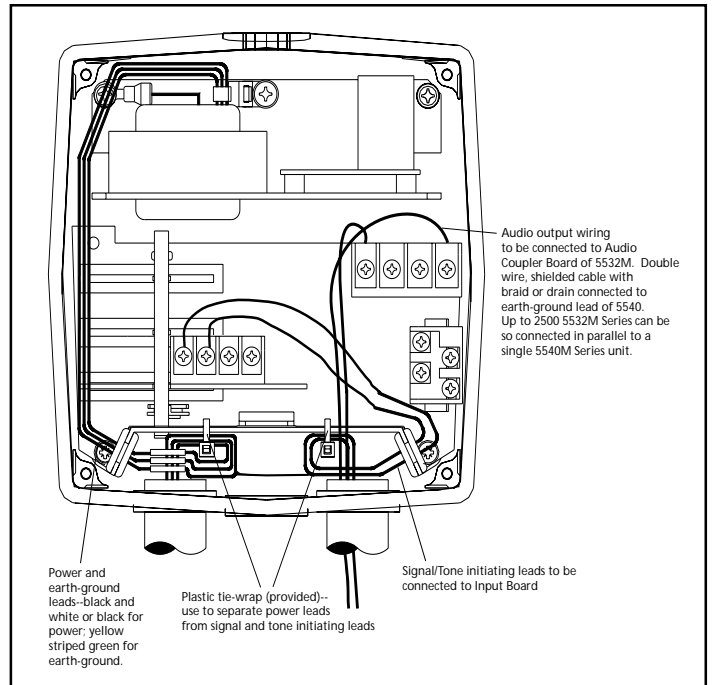

Figure 5. Wiring the 5540M Series Tone Generator
4. Wire to the 5532B series speaker/amplifier as follows and referring to Figures 5, 6, 7 and 18: